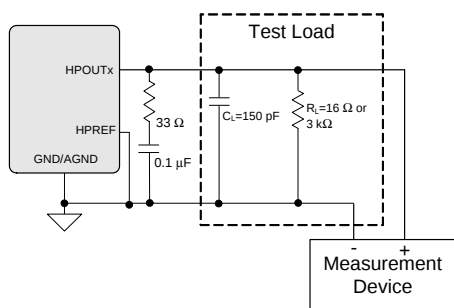
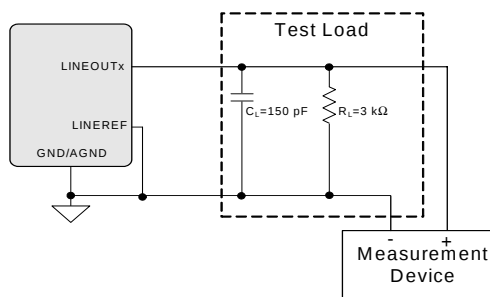

Figure 3. HP Output Test Configuration
Figure 4. Line Output Test Configuration
Test conditions (unless otherwise specified): Connections to the CS42L55 are shown in the “Typical Connection Diagram” on page 10; Input test signal is a full-scale 997 Hz sine wave; All Supplies = V_A , VCP Mode; GND = AGND = 0 V; $T_A = +25^\circ\text{C}$; Measurement bandwidth is 20 Hz to 20 kHz; Sample Frequency = 48 kHz; Test load $R_L = 3\text{ k}\Omega$, $C_L = 150\text{ pF}$ for a Line Load, and test load $R_L = 16\text{ }\Omega$, $C_L = 150\text{ pF}$ for a headphone load. (See Figure 3 on page 15).
Test conditions (unless otherwise specified): Connections to the CS42L55 are shown in the “Typical Connection Diagram” on page 10; Input test signal is a full-scale 997 Hz sine wave; All Supplies = VA, VCP Mode; GND = AGND = 0 V; $T_A = +25\text{ }^{\circ}\text{C}$; Measurement bandwidth is 20 Hz to 20 kHz; Sample Frequency = 48 kHz; Test load $R_L = 3\text{ k}\Omega$, $C_L = 150\text{ pF}$ (see Figure 3 on page 15).
- See Figure 3 and Figure 4 on page 15. Refer to “Parameter Definitions” on page 71.